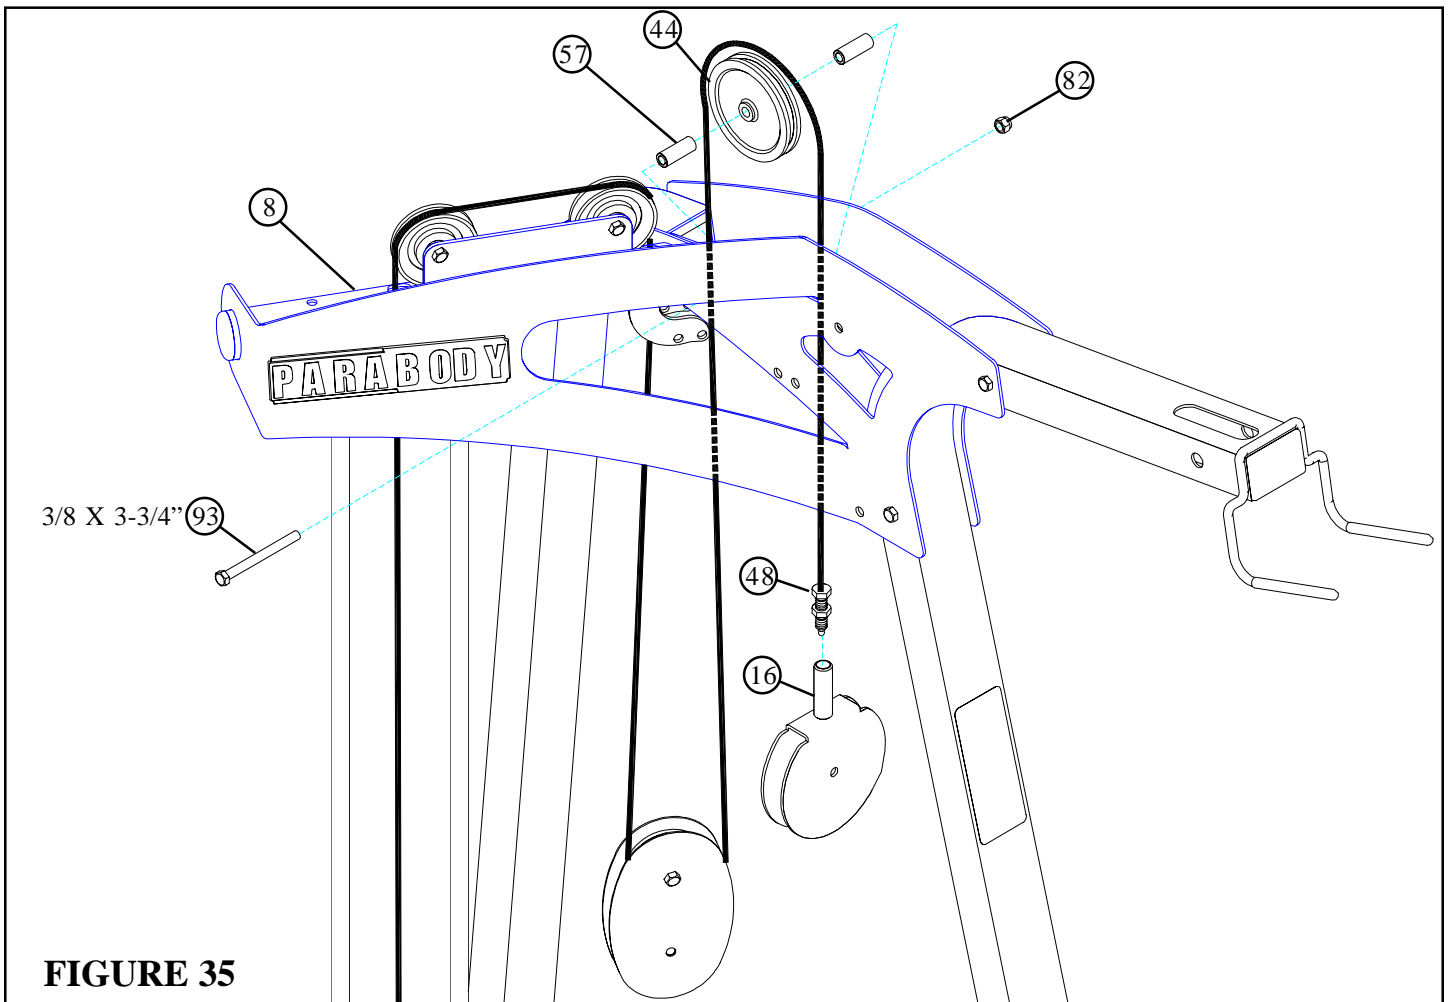

FIGURE 35
- Route the WEIGHT STACK CABLE (48) around one 4-1/2" PULLEY (43) and assemble the PULLEY to the BOOM BRACKET (8) using one 3/8 X 3-3/4" BOLT (93), two 3/8 X 1" SPACERS (57), and one 3/8" LOCK NUT (82). See FIGURE 35.
- Screw the threaded end of the WEIGHT STACK CABLE (48) into the end of the FLOATING PULLEY BRACKET (16) .